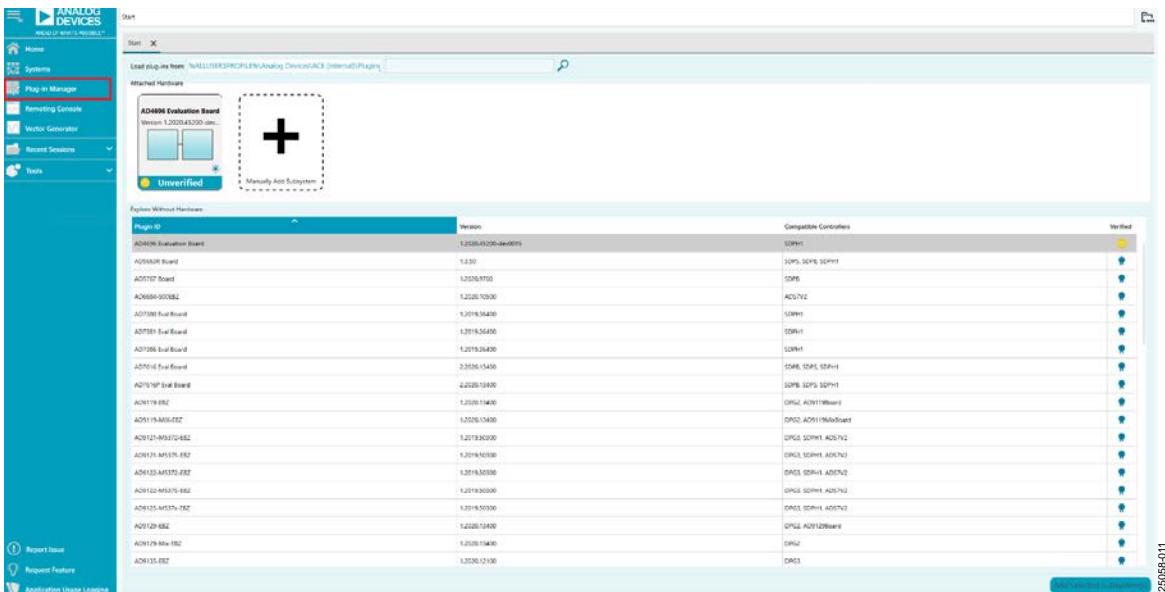

Figure 10. Selecting Plug-in Manager
2. To install the AD4696 ACE plugin, click **Plug-in Manager** on the left of the ACE main window, as shown in Figure 10.
1. Click the **Plug-in Manager** on the left of the ACE main window, as shown in Figure 10.